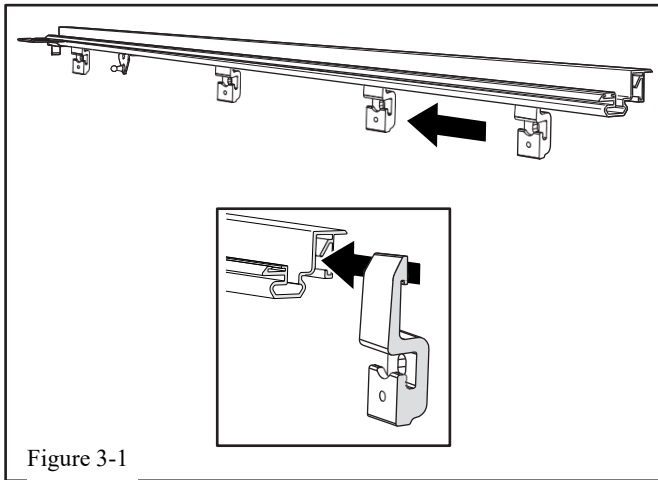

Figure 3-1
- (a) Align the "S" clamps with the bed rail slot and insert into the rail. The clamps will match the truck bed holes from the cargo rail (Figure 3-1).